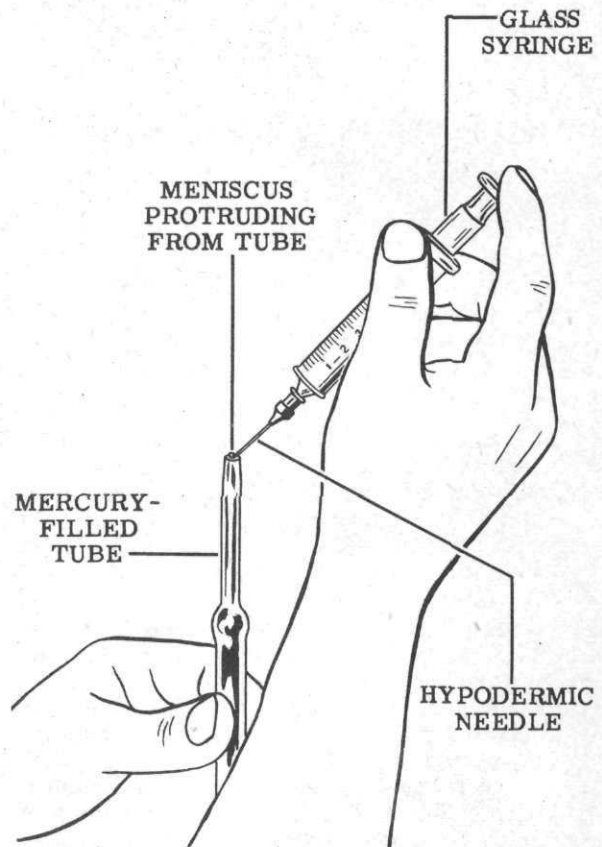

Figure 48
58. Fill the glass syringe equipped with a hypodermic needle (Tool No. 15) with about 1 CC of clean mercury. Remove the protecting cap (Tool No. 16) from the top of the mercury-filled tube. Using the syringe, insert mercury into the tube so that there is a meniscus protruding out of the top of the tube. See Fig. 48. During this operation the mercury tube assembly will remain supported in the vertical support rack, Tool No. 5.